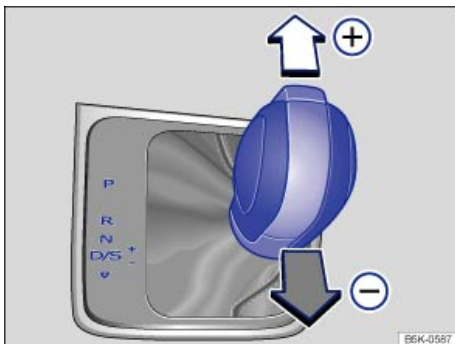

Fig. 131 Selector lever in Tiptronic position.
- Briefly push the selector lever forward (+) to upshift into a higher gear or backward (-) to downshift into a lower gear ⇒ fig. 131.